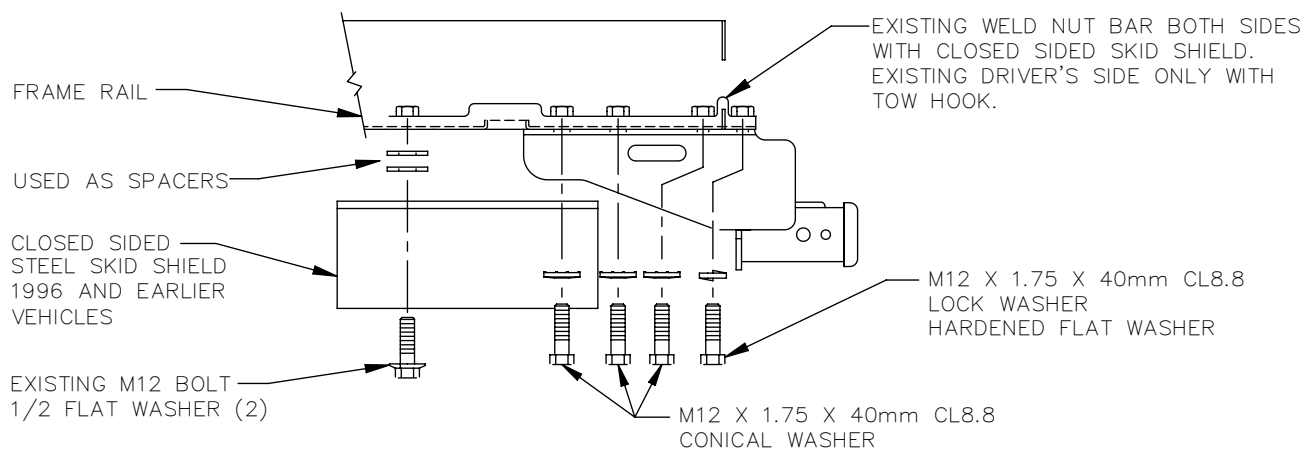

FIGURE 2
NOTE: FIVE (5) INSTALLATION OPTIONS ARE POSSIBLE DEPENDING ON VEHICLE CONFIGURATION. REFER TO SHEET 2 FOR FIGURES 2, 3, 4 AND 5.
2. OPTION A – SEE FIGURE 2
OPTION C – SEE FIGURES 2 & 3